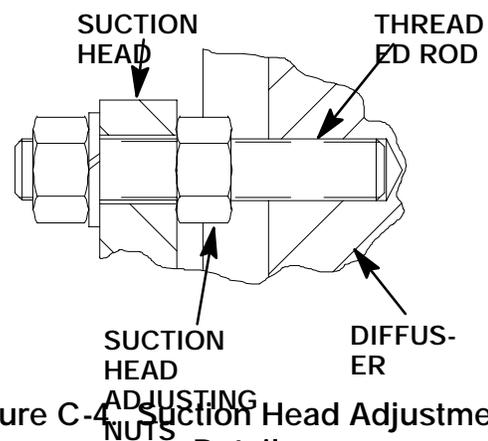

Figure C-4 Suction Head Adjustment Detail
See Figure C-4 and install the suction head adjusting nuts (3) on the threaded rods (2). Position the suction head over the threaded rods and press it into the diffuser until fully seated against the adjusting nuts.